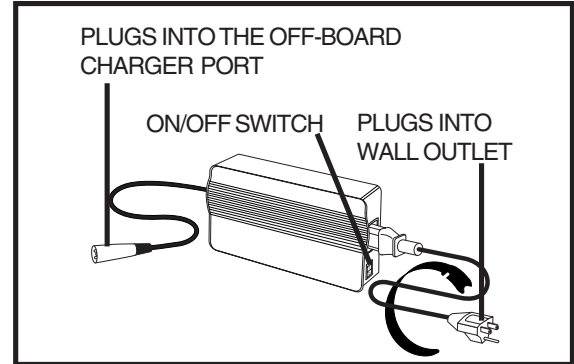

Figure 9. Off-Board Charger
4. Plug the 3-pin charger power lead into the off-board charger port. See figures 9 and 10.